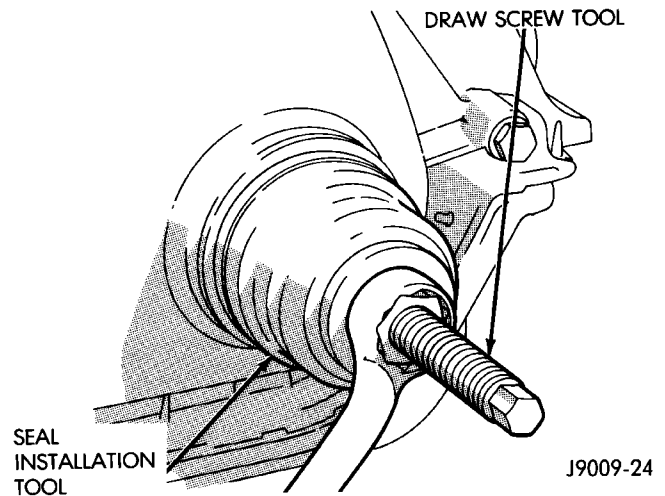

Fig. 63 Timing Case Cover Oil Seal Installation
- (1) Position the replacement oil seal on Timing Case Cover Alignment and Seal Installation Tool 6139 with seal open end facing inward. Apply a light film of Perfect Seal, or equivalent, on the outside diameter of the seal. Lightly coat the crankshaft with engine oil.
- (2) Position the tool and seal over the end of the crankshaft and insert a draw screw tool into Seal Installation Tool 6139 (Fig. 63). Tighten the nut against the tool until it contacts the cover.